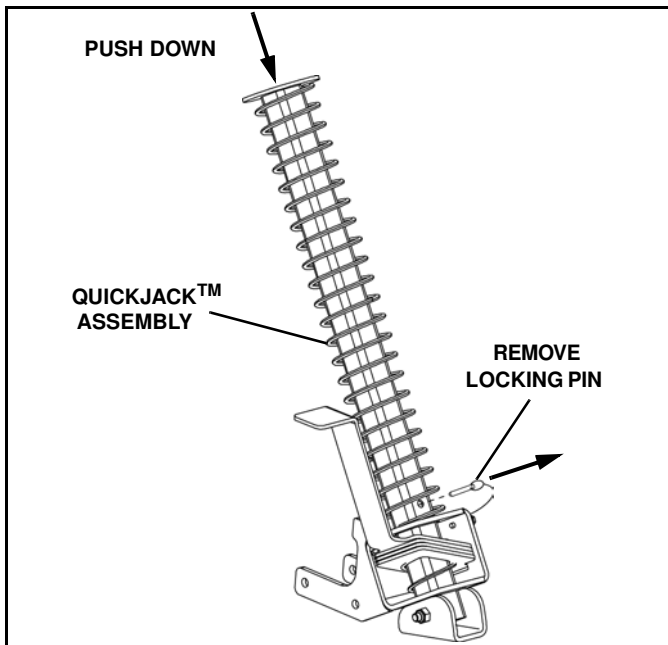

Figure 1-51
3. Remove the QuickJack™ locking pin. Push the center tube down to fully lower the jackstand. (See Figure 1-51).